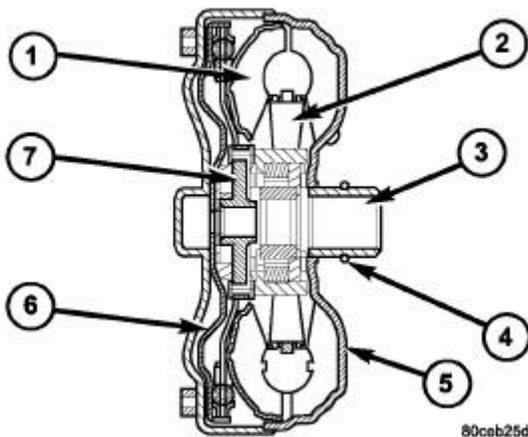

Fig. 5: Torque Converter Assembly
1. Leaks at the weld joint around the outside diameter weld. Refer to **Fig. 5**.
2. Leaks at the converter hub weld. Refer to **Fig. 5**.